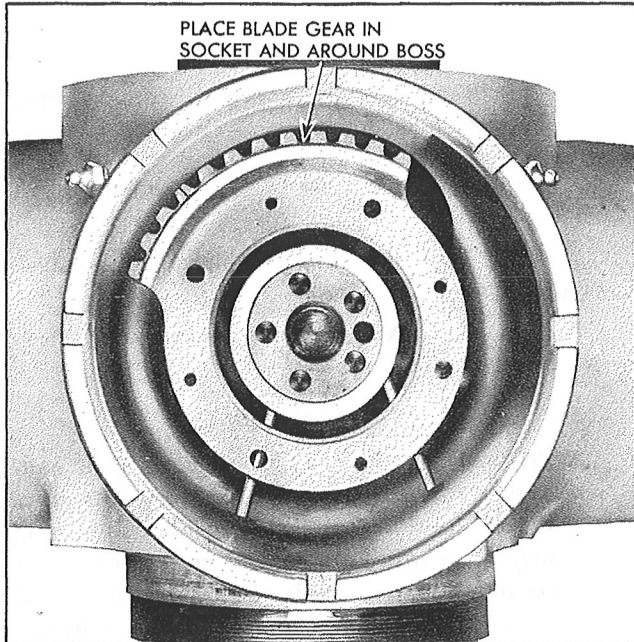

Figure 114—Installation of the Blade Gear
Step 3.—Place the blade gear over the hub boss, as shown in Figure 114.